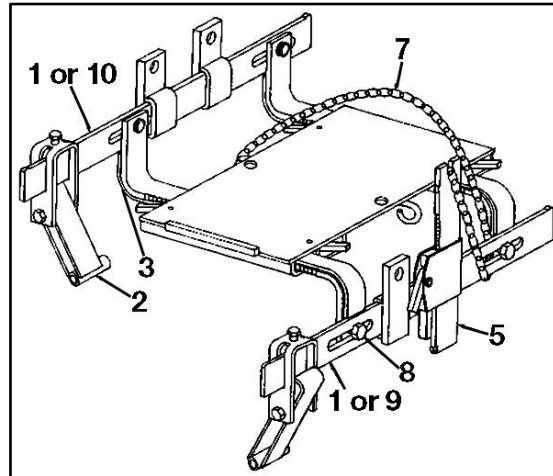

Fig. 22: Inverted bracket use
Transmission brackets (3) can be mounted in an inverted position as is illustrated by the Fig. 22 and 23. When mounted in this position the locking ratchets are non-operational; however, the transmission brackets are held in place by the bolt circle adapters (2) which are bolted to the driveline component and/or by the chain sling (7), Fig. 22, which captures the support bar.